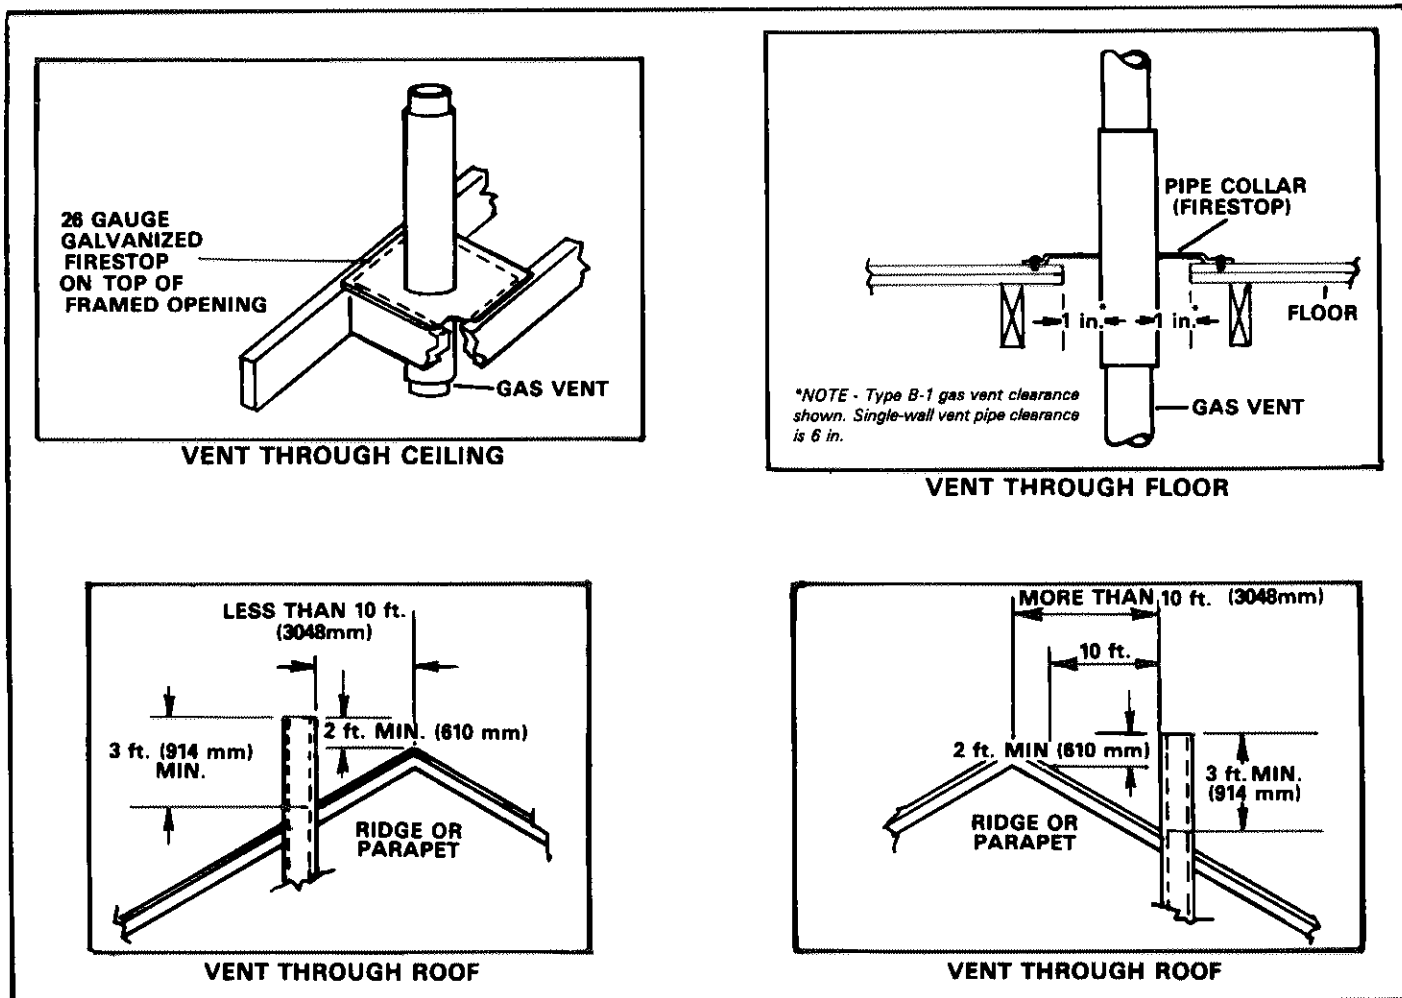

FIGURE 9
- 6 - All vent pipe passing through floors, ceilings and walls must be fire-stopped according to all applicable local building codes or, in the absence of local codes, the National Fuel Gas Code (ANSI-Z223.1-1984). See figure 9.
- 7 - The gas vent or chimney must extend 3 feet higher than the point of emergence through the roof and must be at least 2 feet higher than any object within a 10 foot radius (See figure 9.)